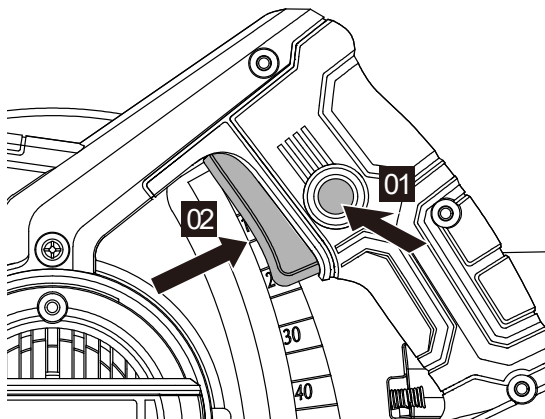

Figure 9
3. SAFETY ON/OFF SWITCH (SEE FIG. 9)